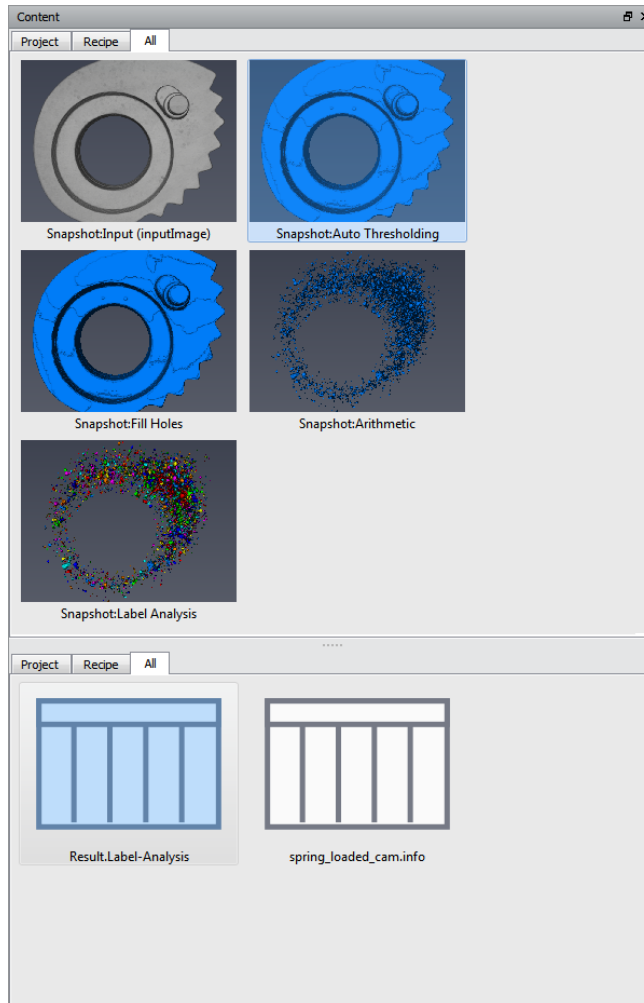

Figure 17.5: Snapshots and Table from Recipe
6. Switch to the Reporting Workroom. The snapshots and tables appear in the sub-panels. Note that when loading a recipe, Avizo automatically detects the snapshots generated by the recipe, and the snapshot sub-panel is automatically populated with *empty* snapshot placeholders. This is not true for tables since the recipe must be played once for Avizo to determine which tables are generated (see Figure 17.5).